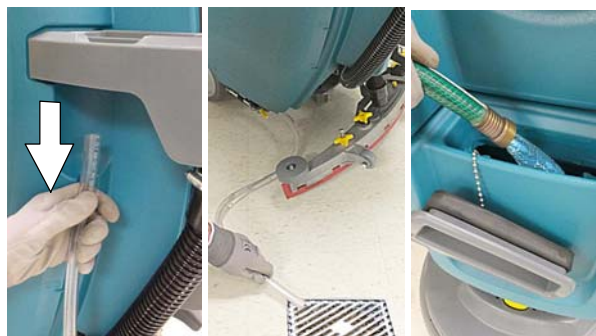

FIG. 86
4. Drain and rinse out the solution tank (Figure 86).